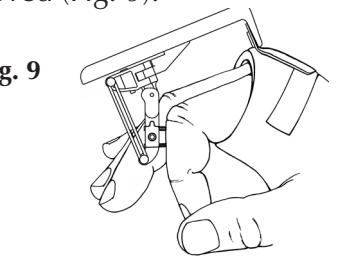

Fig. 9
5. Attach new Elastic Band(s) of the same color and quantity you removed (Fig. 9).